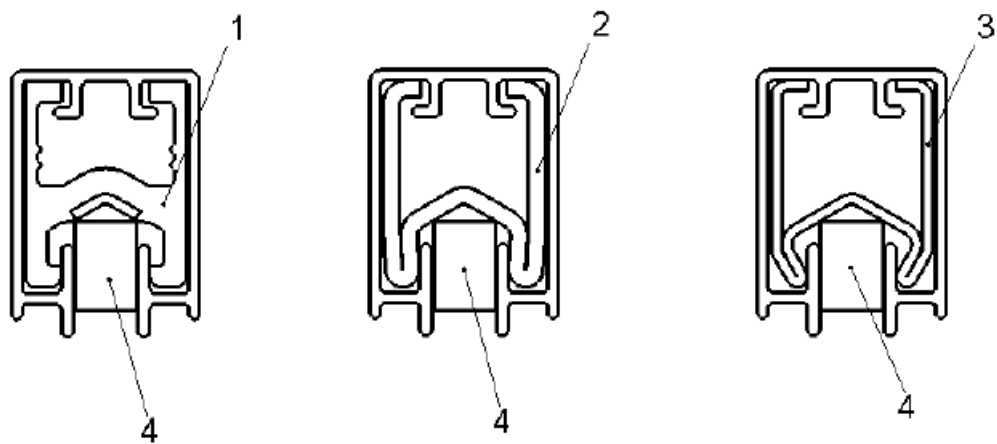

Fig. 11: Plastic insert (included with the horizontal rollers)
Roller Set for 0812 Vertical Bend (inner and outer bend)	Roller Set for 0812 Horizontal Bend (for inner and outer bend incl. insert, see Fig. 11)
- Use the supplied plastic inserts (4) (see Fig. 11) to counteract the deformation of the profile cross-section!
To produce a horizontal bend, the insert must first be inserted into the profile which is open on one side, so that it is not compressed by the rollers during bending (see Fig. 11).